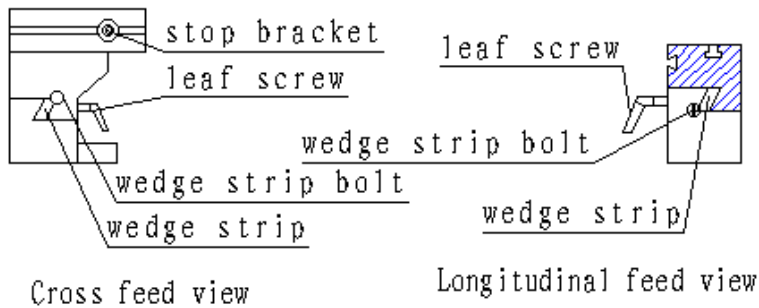

Fig2
- (1) Be sure that drill bit or cutting tool is securely fastened in the chuck.
- (2) Before starting the operation, make sure the clip keys have taken away.
- (3) Adjust the table gauge and the depth gauge to the proper position so that the drilling head drill will not touch the worktable.
- (4) After finishing operation, take off drilling head or milling cutter and clean the machine.
- (5) Warning: When drilling or milling, you should use the proper vice to hold the work-piece.
(6) Warning: Do not wear glove when operating machine.
10.4 The compensation for wearing and gap adjustment of table (see fig.2)
- (1) The machine is equipped with gib strip for the compensation for wear and the extra gab in the vertical, length.
- (2) When the gap is too big, turn the bolt of gib strip clockwise, or if the gap is too tight, turn it the reverse way.
- (3) Adjust the bolt of gib strip until the table doesn't rock.
10.5 Fasten the worktable and base (see Fig.2)